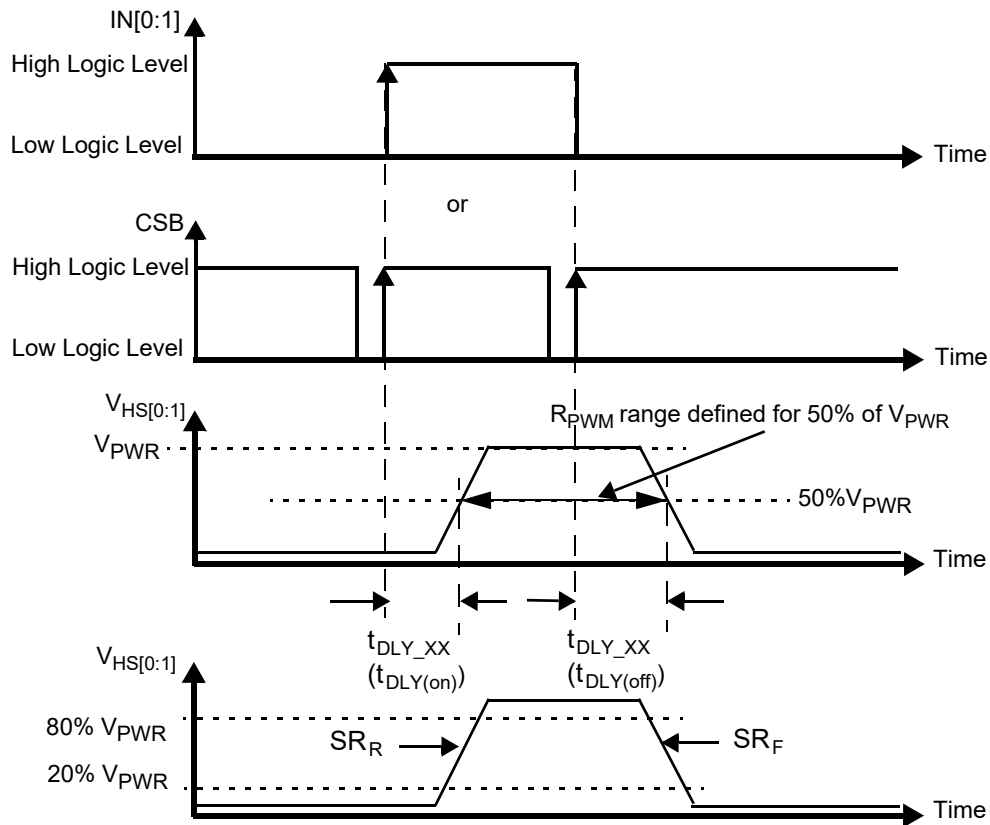
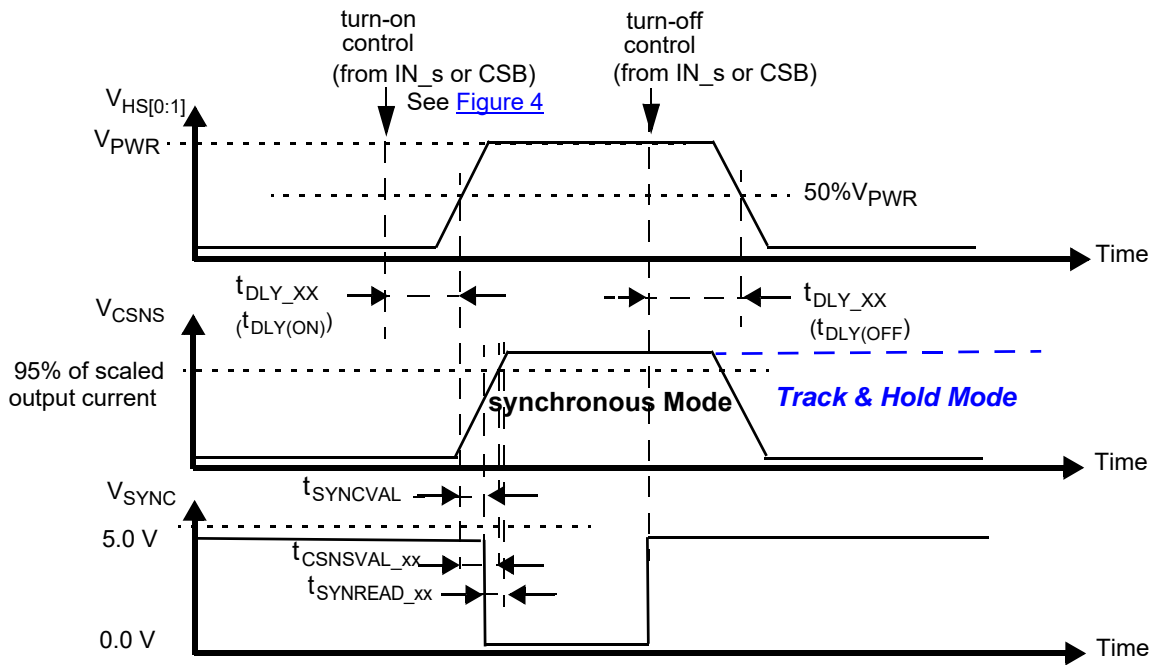

Figure 4. Output voltage slew rate and delay
Figure 9. Synchronous and Track & Hold current sensing modes: associated delay and settling times
27. Rising and Falling edge slew rates specified for a 20 % to 80 % voltage variation on a 10.0 Ω resistive load (see Figure 4).
29. Time required to switch off the channel after detection of overtemperature (OT), overcurrent (OC), SC or UV error (time measured between start of the negative edge on the FSB pin and the falling edge on the output voltage until $V(HS[0:1]) = 50\%$ of V_{PWR}).
30. Settling time ($= t_{CSNSVAL_XX}$), SYNC output signal delay ($= t_{SYNVAL_XX}$) and Read-out delay ($= t_{SYNREAD_XX}$) are defined for a stepped load current ($100\text{ mA} < I(LOAD) < IOCLX_A$ FOR $CSNS_RATIO_S = 1$, AND $300\text{ mA} < I(LOAD) < IOCLX_A_0$ FOR $CSNS_RATIO_S = 0$). (see Figure 9 and Output current monitoring \(CSNS\)).
To synchronize current sensing with an external process, the SYNC signal can be connected to a digital input of an external MCU. SYNC is asserted logic low when the current sense signal is accurate and ready to be read. The current sense signal on the CSNS pin has the specified accuracy $t_{SYNREAD_XX}$ seconds after the falling edge on the SYNC pin (Figure 9) and remains valid until a rising edge is generated. The rising edge that is generated by the SYNC pin at the turn-OFF instant (internal or external) may also be used to implement synchronization with the external MCU. Parameter $t_{SYNCVAL_XX}$ is defined as the time between the instant at the middle of the output-voltage rising edge ($HS[0:1] = 50\%$ of V_{PWR}), and the instant at which the voltage on the SYNC-pin drops below 0.4 V (V_{SOL}). The SYNC pins of different devices can be connected together to save micro-controller input channels. However, in this configuration, the CSNS function of only one device should be active at a time. Otherwise, the MCU does not determine the origin of the SYNC signal. The SYNC pin is open drain and requires an external pull-up resistor to V_{DD} .